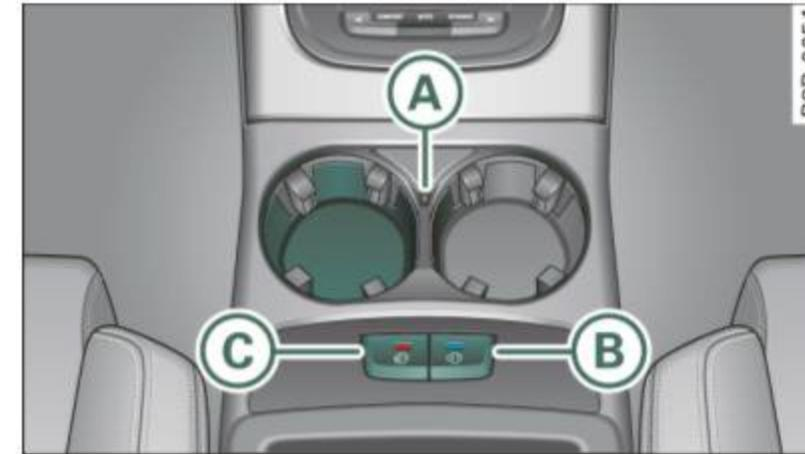

Fig. 93 Center console: climatized cupholder
- Press button **B** ⇒ fig. 93 to keep your beverage **cold**. The button will light up blue.
- Press button **C** ⇒ fig. 93 to keep your beverage **warm**. The button will light up red.